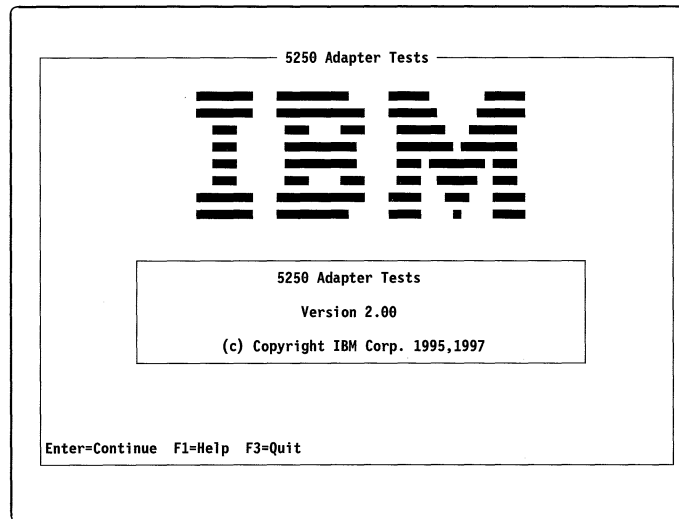

Figure 6. 5250 Emulation Adapter Tests Screen
1. Insert the backup copy of Support Diskette #2 in the A: drive and power on your PC. The 5250 Emulation Adapter Tests screen, similar to the one shown in Figure 6, appears.